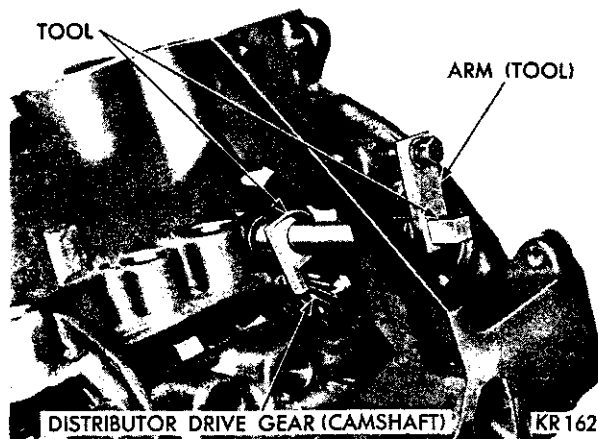

Fig. 21—Camshaft Holding Tool C-3509
When installing timing chain, use Tool C-3509 to prevent camshaft from contacting the welch plug in the rear of engine block. Remove distributor and oil pump-distributor drive gear. Locate tool against rear side of cam gear and attach tool with distributor retainer plate bolt (Fig. 21).
(1) Lubricate camshaft lobes and camshaft bearing journals and insert camshaft to within 2 inches of its final position in cylinder block.
(2) Modify Tool C-3509 by grinding off index lug holding the upper arm on the tool and rotate arm 180 degrees.
(3) Install Tool C-3509 in place of distributor drive gear and shaft, as shown in Figure 21.
(4) Hold tool in position with distributor lock plate screw. This tool will restrict camshaft from being pushed in too far and prevent knocking out the welch plug in the rear of cylinder block.